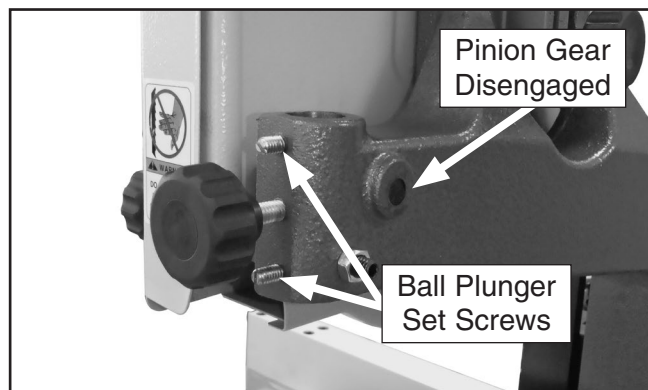

Figure 5. Pinion gear shaft pushed in.
11. Push the pinion gear shaft inward to disengage the gear from the rack (see **Figure 5**).
12. Unthread the two ball plunger set screws (**Figure 5**) away from the guide post. (It is not necessary to remove them.)